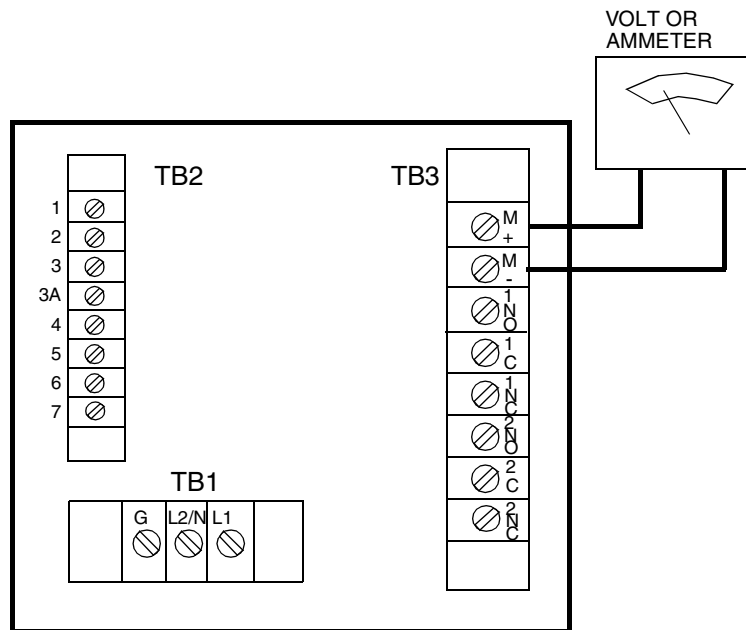

Figure 22. Output Terminals and Volt/Ammeter (Plastic Version Shown)
1. Connect an ammeter/voltmeter to the analog output terminals. See Figure 22 and “Wiring of Plastic Enclosure” on page 18 or “Wiring of Metal Enclosure” on page 20.